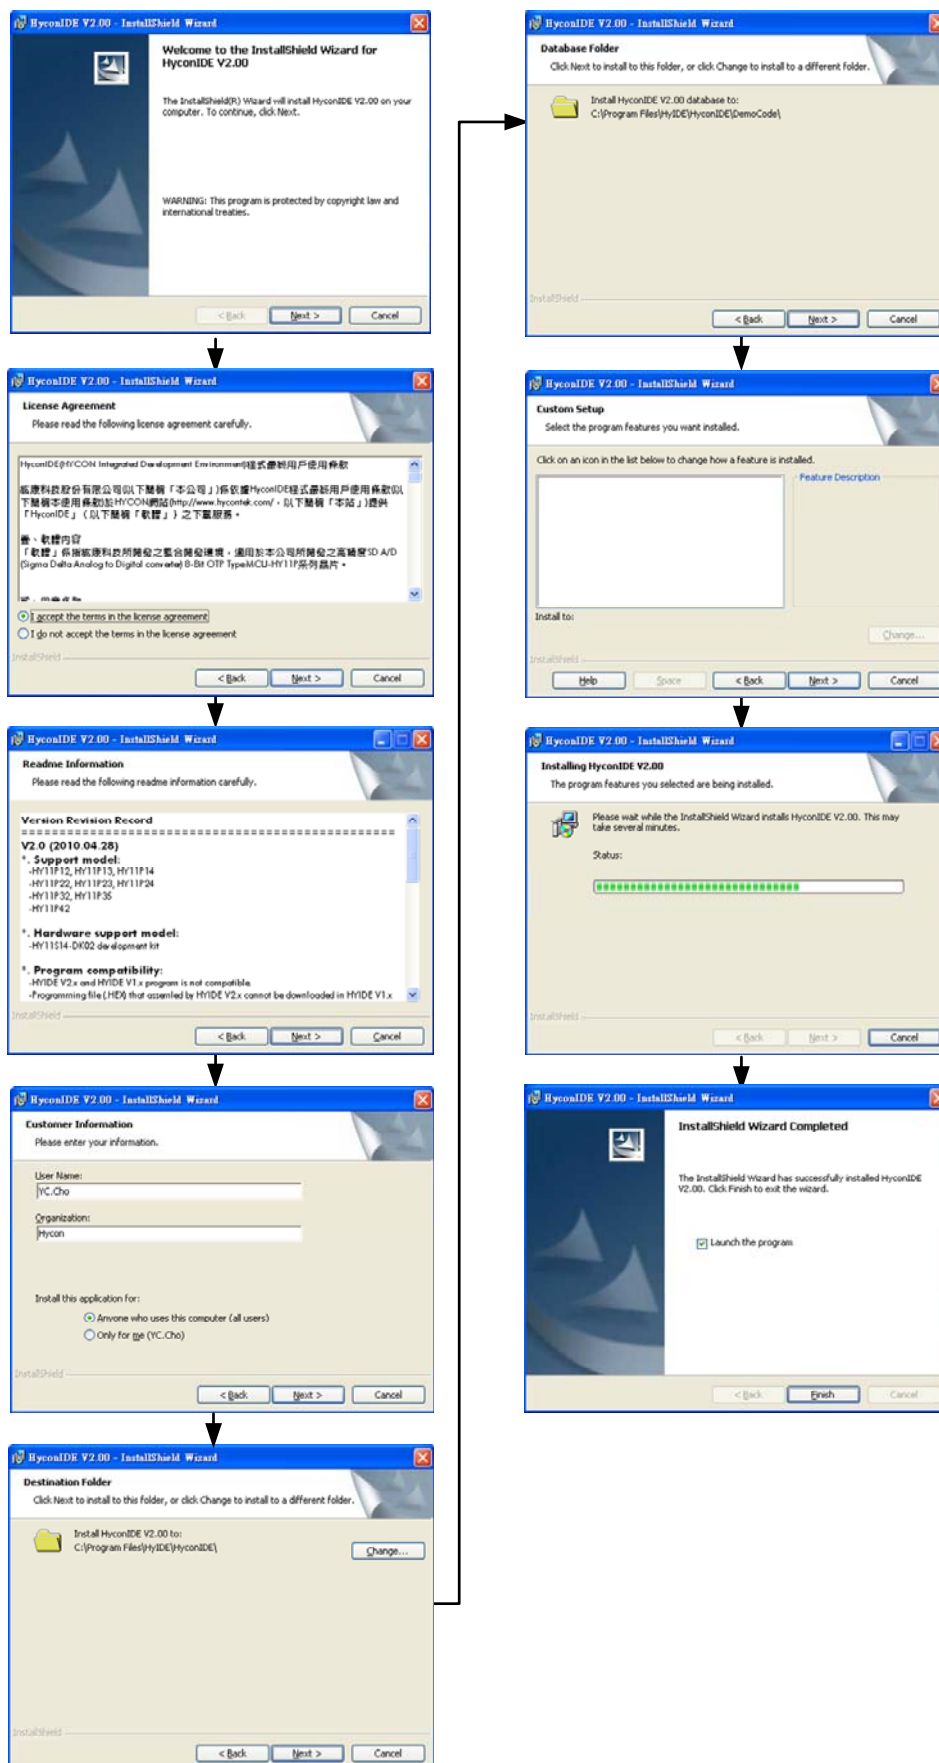

Figure 1
- Following the instruction window dialogs step by step to continue setup procedures., as shown in Figure 1.